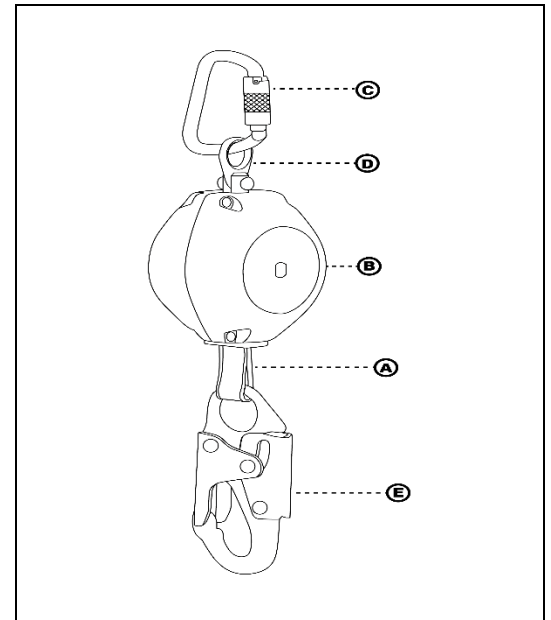

Figure 1: Key components of webbing SRL
3.1 KEY COMPONENTS: Refer to Figure 1 for identification of key components of Self-Retracting Lanyards. Bashlin SRL's are drum wound Webbing Lifelines (A) that retract into a Nylon or Aluminum Housing (B). The Swivel Eye (D) on top of the SRL allows units to hang from anchorage by an attached Carabiner (C). The SRL is attached to the Fall Arrest connection on a Full Body Harness via a self-locking snap hook (E) on the end of the Lifeline.